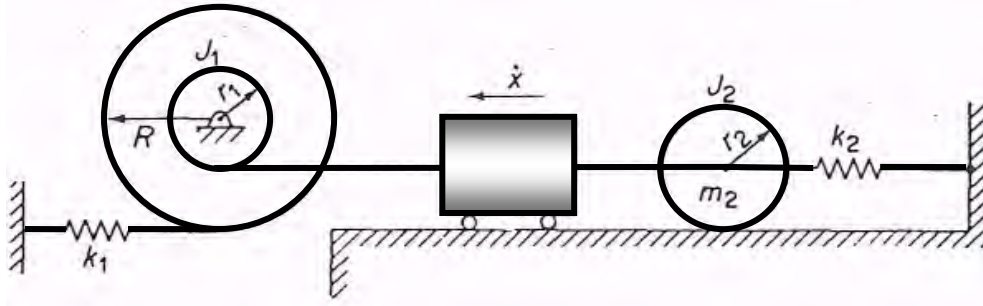

Figure 3
Q.4 Consider the system shown in Figure 3 and determine the following: